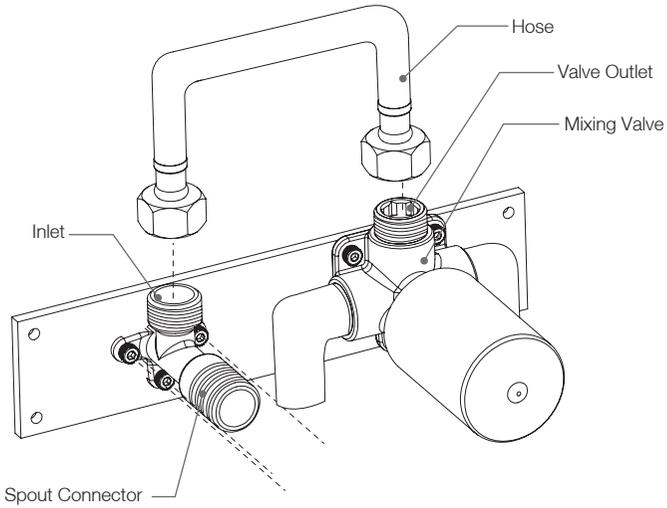

fig. 3.
- Attach the spout connector to the back plate using the remaining hex key fixings provided. Ensure the inlet is facing up. Connect the spout connector inlet to the valve outlet using the hose provided. (fig 3)